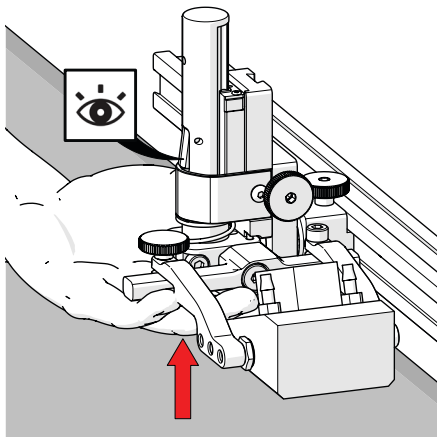
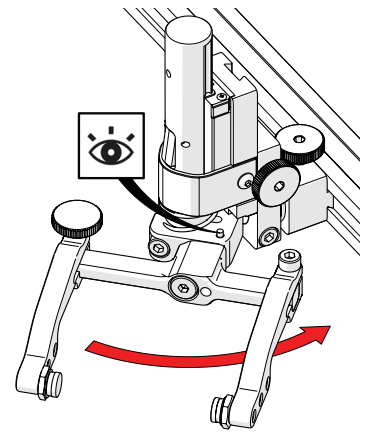

Fig. 110 - Latch probe holder
Fig. 116 - Stop post locates 90°
1. Ensure the probe holder is in the latched, upper position. Do this by lifting the probe holder till the latch is fully exposed (Fig. 110).
1. Ensure the probe holder is in latched, upper position (*Fig. 110*).
To return the transverse adjustment to neutral (90°). The probe holder must be in the latched, upper position (*Fig. 110*). Rotate the yoke until the stop post contacts the base of the probe holder (*Fig. 116*). Then tighten the transverse adjustment screw.
1. Ensure the probe holder is in latched, upper position (Fig. 110).